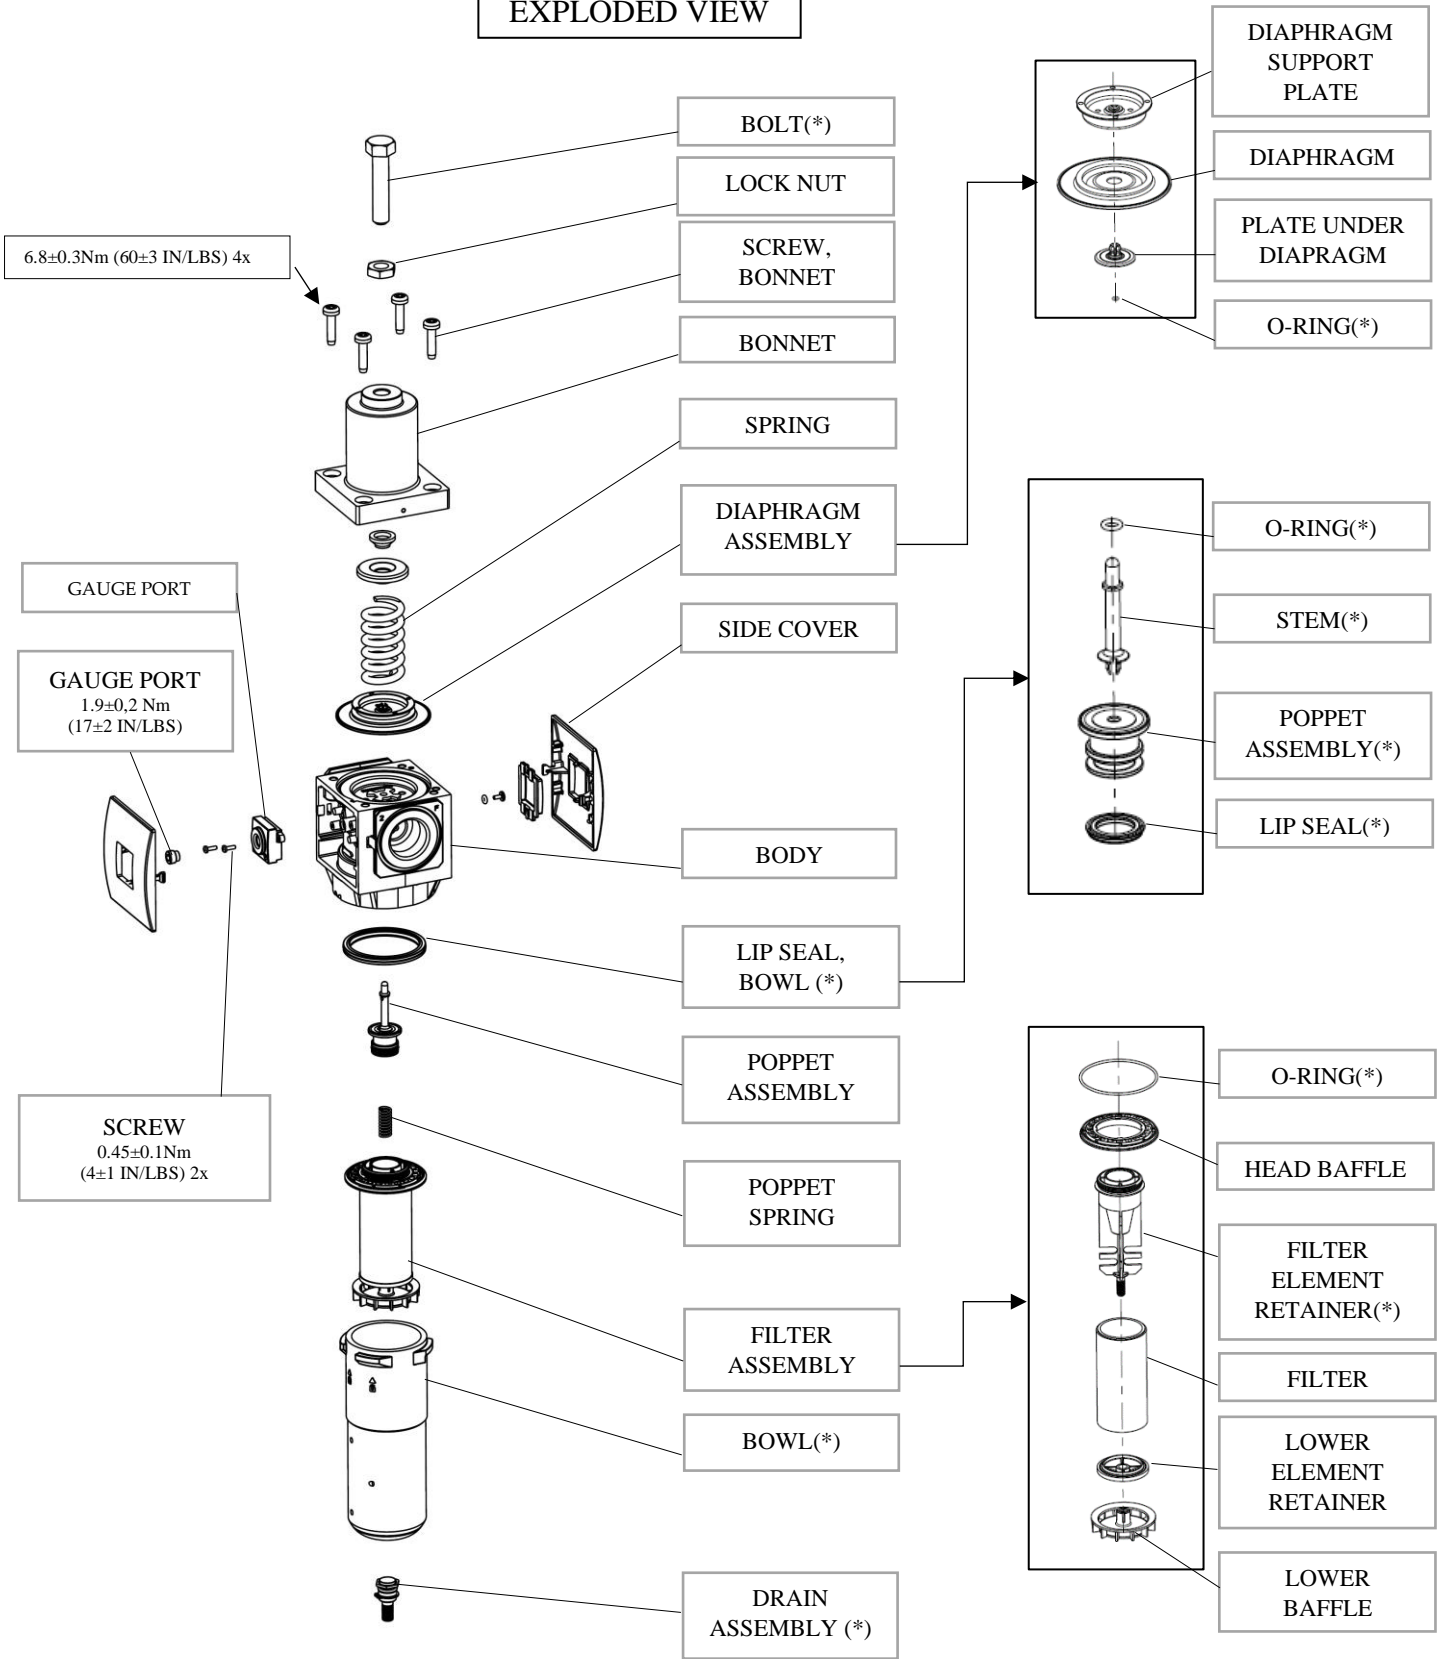

FIG. 1: EXPLODED VIEW
1. Disassemble FR in an orderly fashion using exploded views for identification and placement of parts. Refer to figure 1.